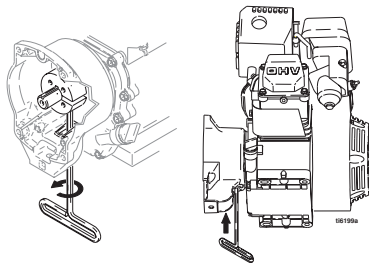

FIG. 9
- FIG. 9. Tip engine on side so gas tank is down and air cleaner is up.